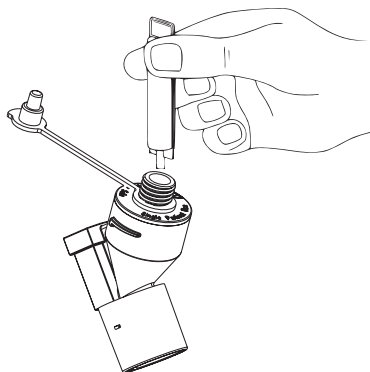

Figure 16: Filling the nebulizer unit with a pre-filled ampoule
2. Use a pre-filled ampoule or syringe to add medication into the filler port of the nebulizer (Figure 16).